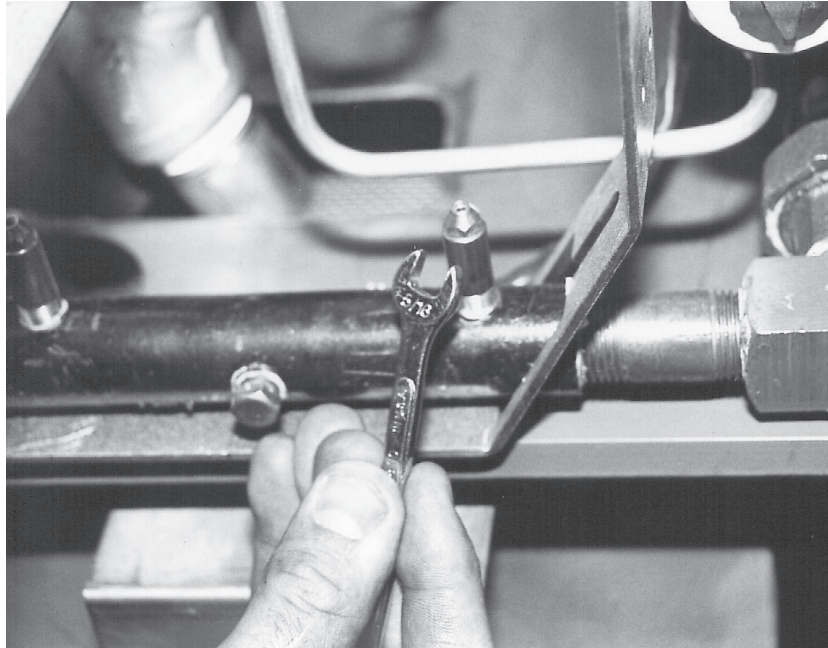

Fig. 35
2. With a $\frac{5}{16}$ " wrench, remove the pilot orifice. (Fig. 35)